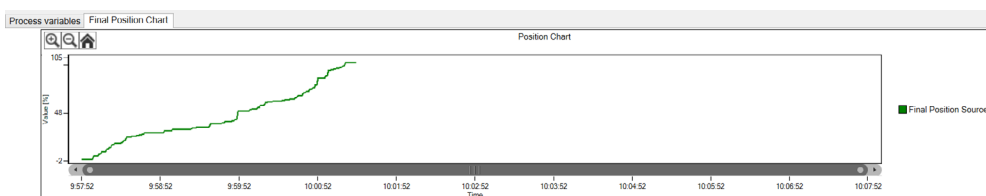

Figure 15: Final Position Chart
- *Final Position Chart*: This tab displays a visual representation of position 0% to 100%. See **Figure 15**.